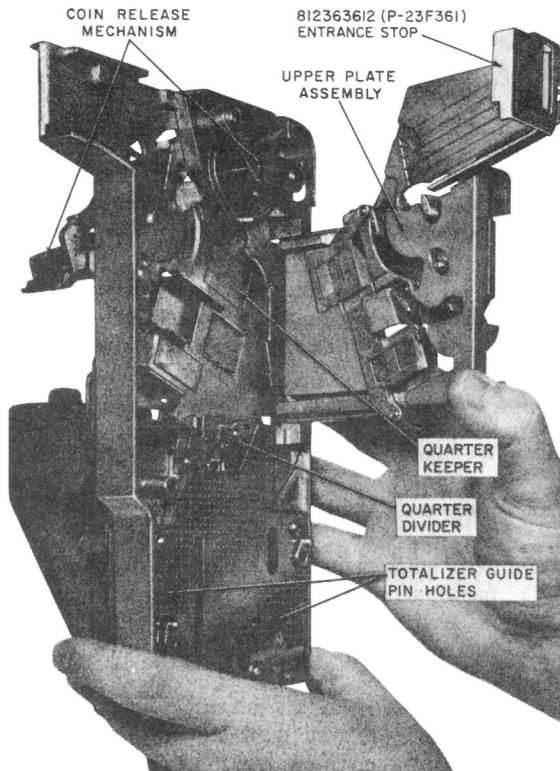

Fig. 33—Chute
- (1) Remove cover unit assembly (1-type) or open door and faceplate assembly (2-type).
- (2) Remove chute-totalizer.
- (3) Swing upper plate assembly open (Fig. 33).
- (4) Where possible, use an orange stick to remove any foreign objects or stuck coins. Do not use screwdriver. Do not loosen chute assembly screw.
- (5) Clean off any foreign material adhering to chute magnets.